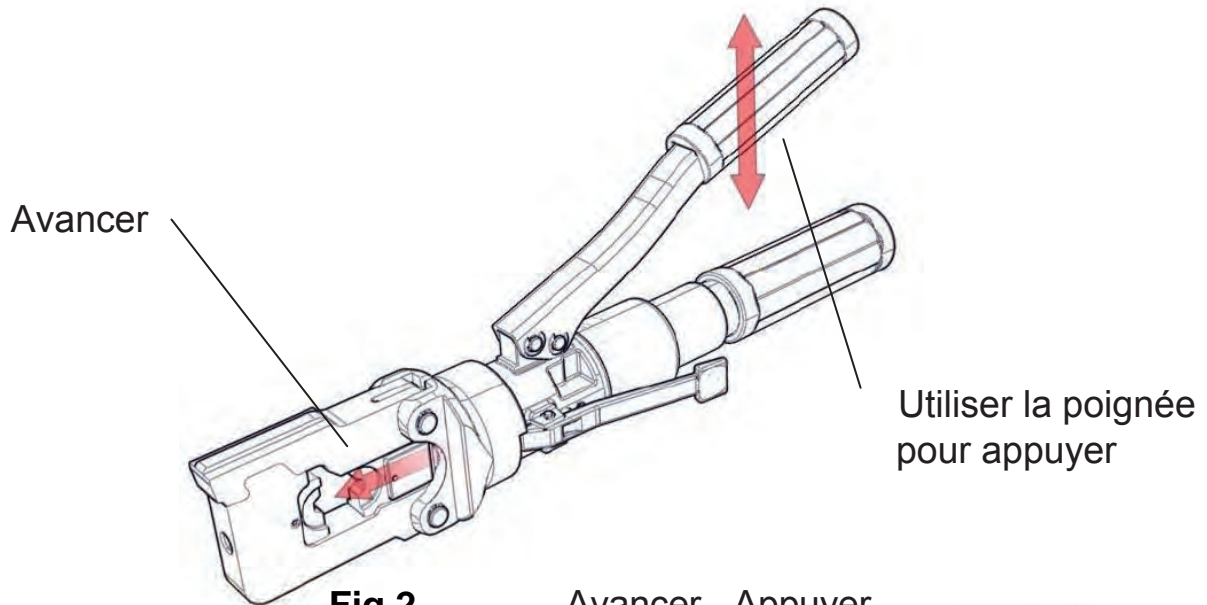

Fig 2.
B. Inset the die in place, then start pressing. Meanwhile, the die will go forth/ go back for pressing. Please see Figure 2, 3, and 4.